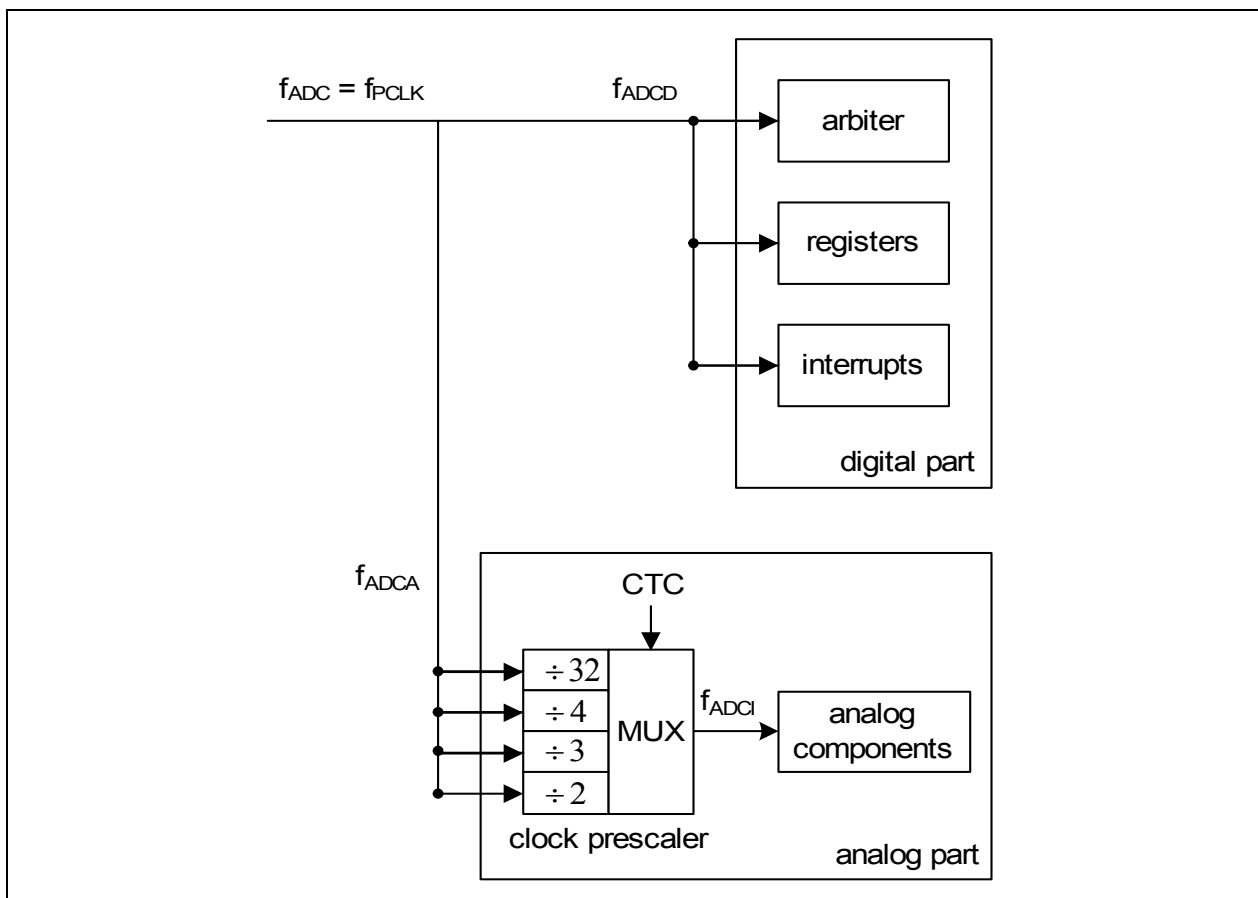

**Figure 31**     **ADC Clocking Scheme**
**Figure 31** shows the clocking scheme of the ADC module. The prescaler ratio is selected by bit field CTC in register GLOBCTR. A prescaling ratio of 32 can be selected when the maximum performance of the ADC is not required.